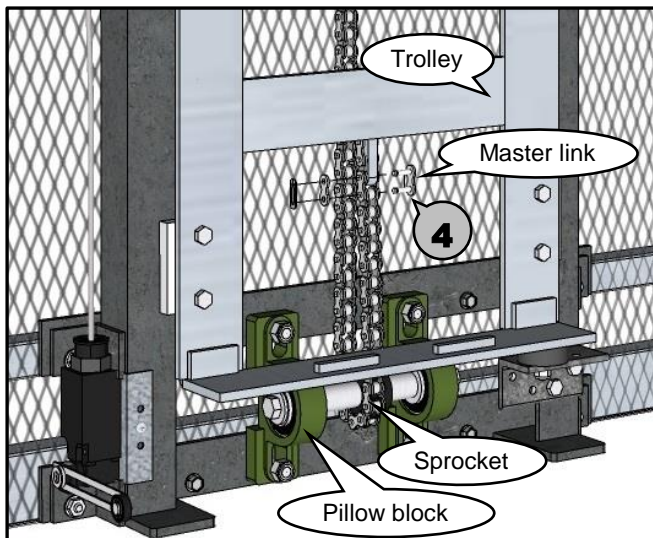

Figure 14
- 4** One end of the chain should hang down behind the trolley and be placed around sprocket on the pillow block assembly. Then use provided master link, attached near the bottom of the trolley with a plastic tie, to connect chain to bottom end of trolley. (see Figure 14)